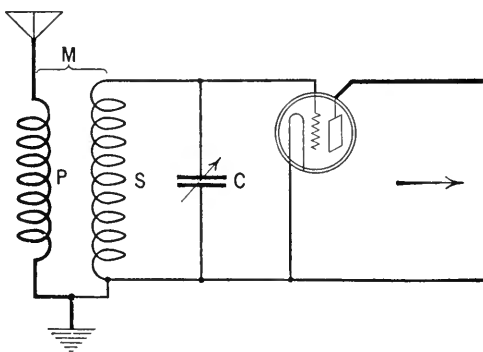

FIG. 1
**B**EGINNING with the amplifier, then, let us see what it consists of and where we might find a point of attack. Fig. 1 shows the conventional arrangement of coils, condenser, and tube. Evidently there are four variable factors:
The radio-frequency transformer. Here again are four variables. Instead of an antenna coil as in Fig. 1 there is a plate coil which serves the same purpose—that of transferring the voltage from one part of the circuit to another. The coupling, *M*, must be close if the longer wavelength stations are to be heard.